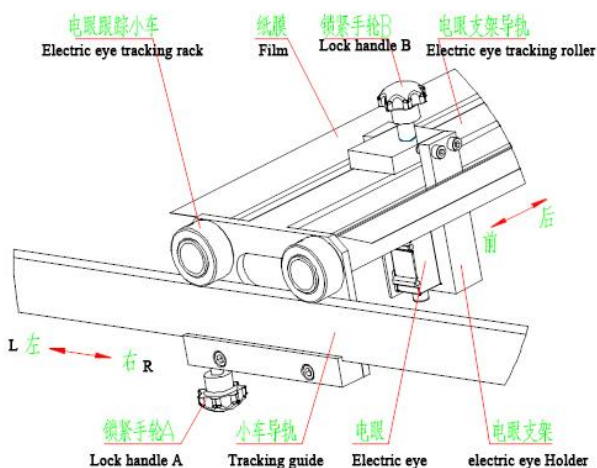

图 31 电眼跟踪示意图 Figure 31 schematic diagram of electric eye tracking
- a、拧松锁紧手柄 A、B(见图 31);Loosen the locking handle A and B(see figure31);